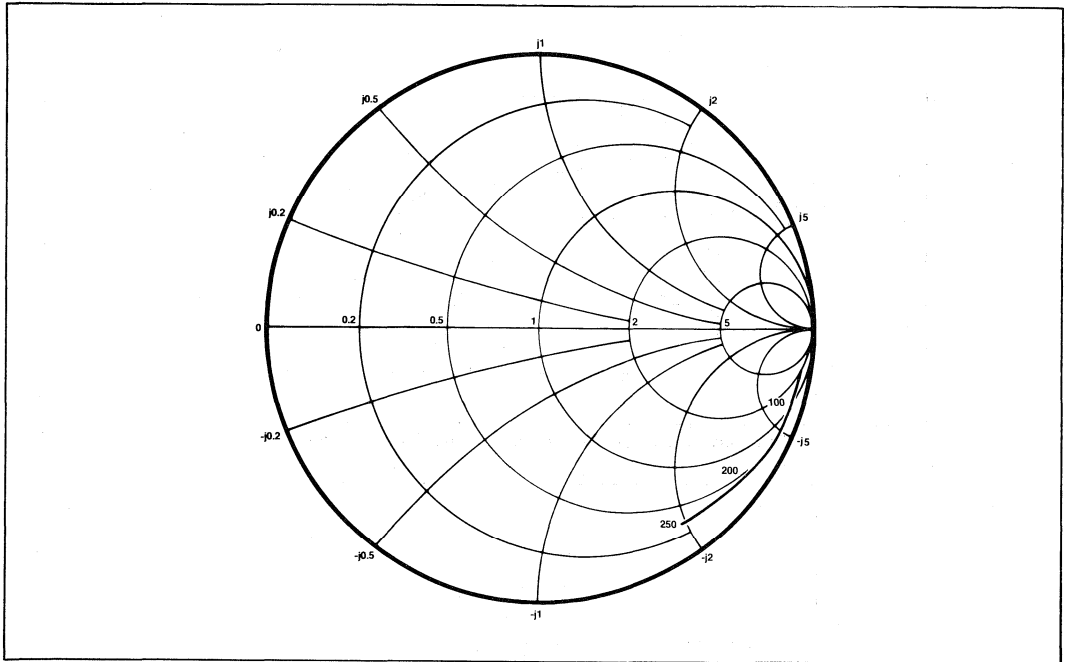

Fig.4 Typical input impedance: supply voltage -5.2V, temperature 25° C, frequencies in MHz, impedances  $|$ normalised to 50 ohms.
6. The input impedance varies as a function of frequency. See Fig. 4.